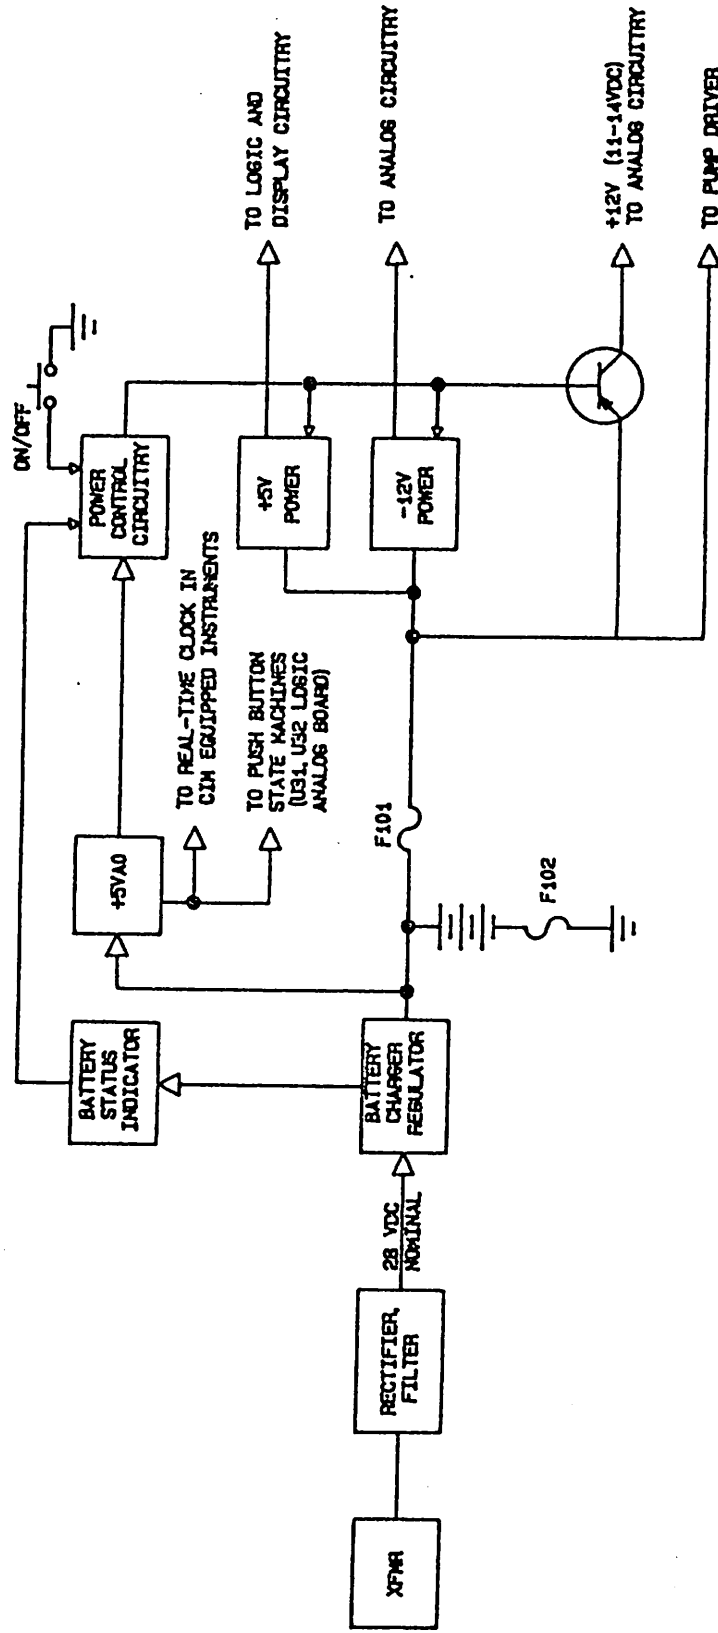

Figure 3-23. Block Diagram of Power Supplies
3.9 POWER REGULATOR BOARD FUNCTIONS (figure 3-23)